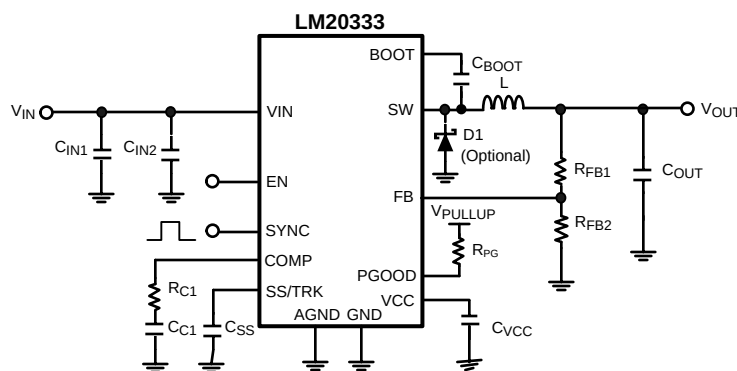

Figure 2. Typical Application Circuit
minimizing the size of the inductor while still achieving efficiencies as high as 94%. The precision internal voltage reference allows the output to be set as low as 0.8V. Fault protection features include: current limiting, thermal shutdown, over voltage protection, and shutdown capability. The device is available in the eTSSOP-20 package featuring an exposed pad to aid thermal dissipation. The typical application circuit for the LM20333 is shown in Figure 2 in the design guide.
This section walks the designer through the steps necessary to select the external components to build a fully functional power supply. As with any DC-DC converter numerous trade-offs are possible to optimize the design for efficiency, size, or performance. These will be taken into account and highlighted throughout this discussion. To facilitate component selection discussions the circuit shown in Figure 2 below may be used as a reference. Unless otherwise indicated all formulas assume units of amps (A) for current, farads (F) for capacitance, henries (H) for inductance and volts (V) for voltages.